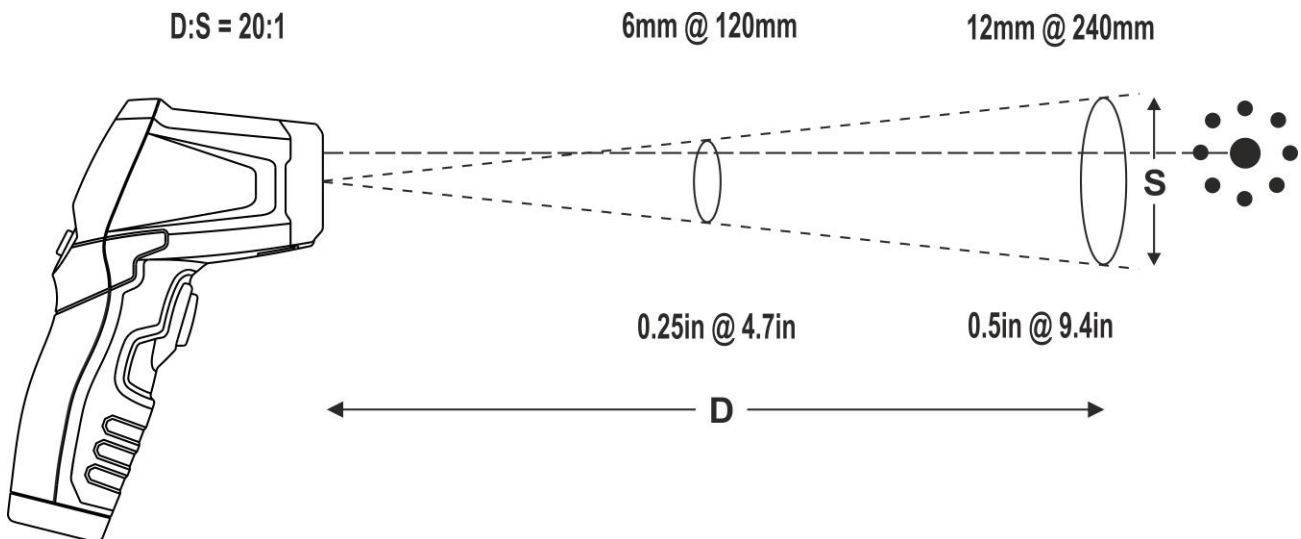

Fig. 4: Distance / Spot ratio of the instrument
5. Make sure that the target, whose temperature is to be measured, is at least as large as the unit's spot (see Fig. 4). The smaller the object is, the closer you should be to it (Example: if the distance from the object is 240mm – 9.4inch, the section of the object should be at least 12mm – 0.5inch for a correct temperature measurement). **When accuracy is critical, make sure the object is at least twice as large as the spot size**